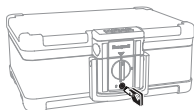

Figure 3.1
1. Insert key into lock cylinder (Figure 3.1).